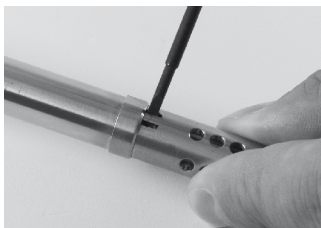

Fig. 24 Loosen the lock of the filter cap
- Loose the lock of the filter cap with an appropriate tool (see *Fig. 24 Loosen the lock of the filter cap*).